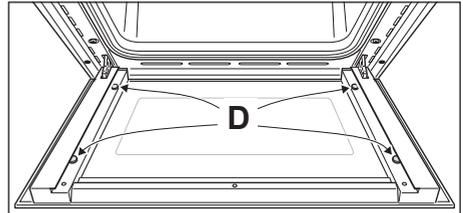

Fig. 8.12a
IMPORTANT: It is advisable, while removing the glass, to keep pressed in position the four rubber pads "D" (fig. 8.12a), by a finger, to avoid breakage or slippage of the rubber pads themselves.
- Check that the four rubber pads are in place ("D" in fig. 8.12a).